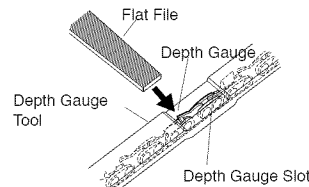

Figure 16 - Depth Gauge Tool On Chain
1. Place depth gauge tool (.025") firmly across top of two cutters. Make sure depth gauge enters slot in depth gauge tool (see Figure 16).